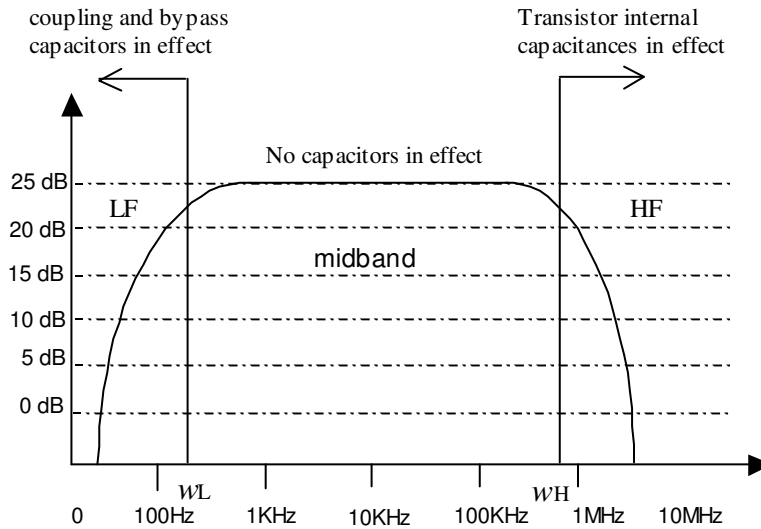

Figure 2 General frequency response of the amplifier
Figure 2 shows the typical frequency response of an amplifier stage. The basic regions of the response are as follows: low frequency region where the equivalent impedance of the coupling capacitors and bypass are not zero, midband region where the coupling and bypass effect has disappeared but the internal capacitances can be ignored, and the high frequency region where the effects due to the internal capacitances of the device start to show up. The amplifier transfer function or the overall gain is a frequency dependent function as given below
The amplifier **bandwidth**, $BW = \omega_H - \omega_L$, where ω_L and ω_H are the low and the high 3dB points as shown in figure 2.
- 4- Sketch the amplitude response as a function of the input signal frequency. (Use a semi-log graph paper in which the frequency is located on horizontal axis (log scale) and the amplitude is in dB located on the vertical axis (linear scale) as shown in figure 2. (Take extra points on the curve whenever you encounter a significant change in output while the input is kept constant).